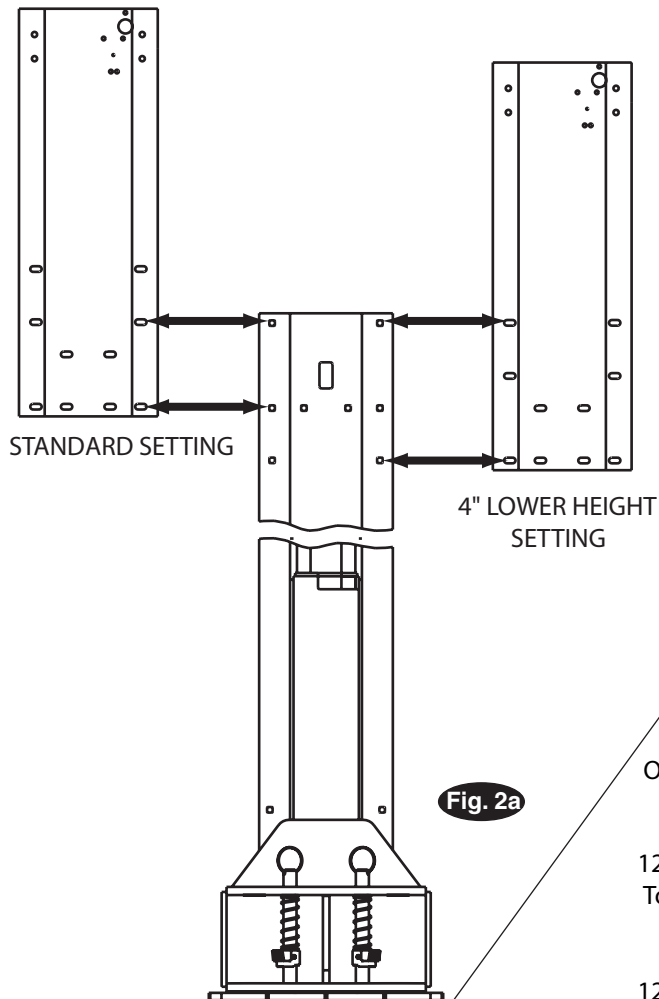

Fig. 2a
3. Column Extensions: Before standing columns upright, install the column extensions using (12) 3/8"-16NC x 3/4" Carriage bolts and Flanged Locknuts, Fig. 2a and 2b.